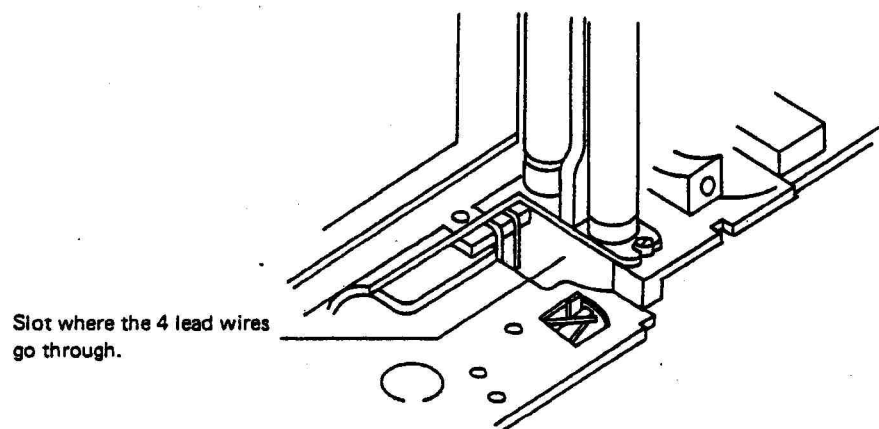

Fig. 13
- a) Replace the Mount Base ass'y to the camera body carefully while inserting the 4 lead wires (blue, orange, gray, pink) into the slot at the bottom of the camera. (fig. 13)